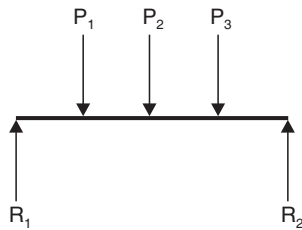

Fig. 2.4
**3. Coplanar non-concurrent parallel force system.** In this system, the lines of action of all the forces lie in the same plane and are parallel to each other but may not have same direction as shown in Fig. 2.4.